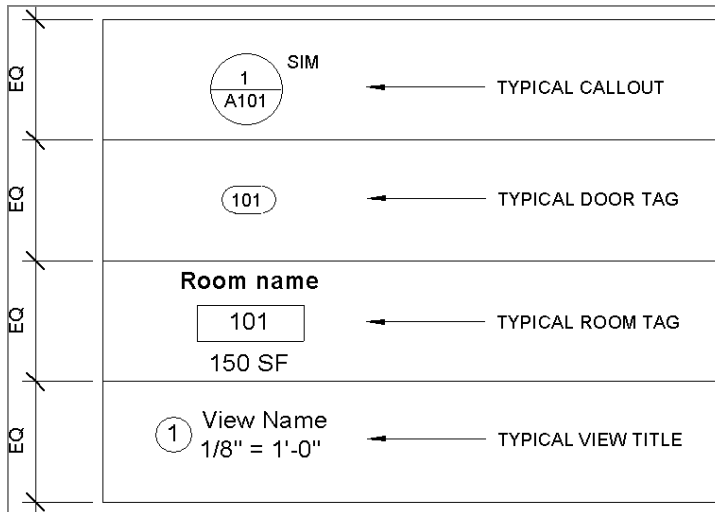

FIGURE 11.52: Draw the horizontal lines, and then equally constrain them using the Dimension command.
9. Move the symbols and the text to the proper positions (see Figure 11.52).